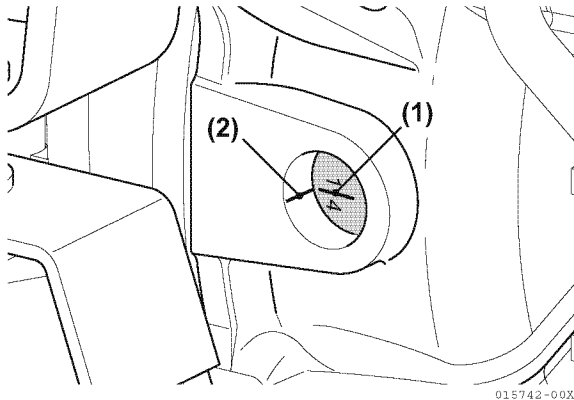

Figure 6-60
8. Highlight the timing reference mark (**Figure 6-60, (2)**) on the flywheel housing. Highlight the TDC mark (**Figure 6-60, (1)**) on the flywheel.